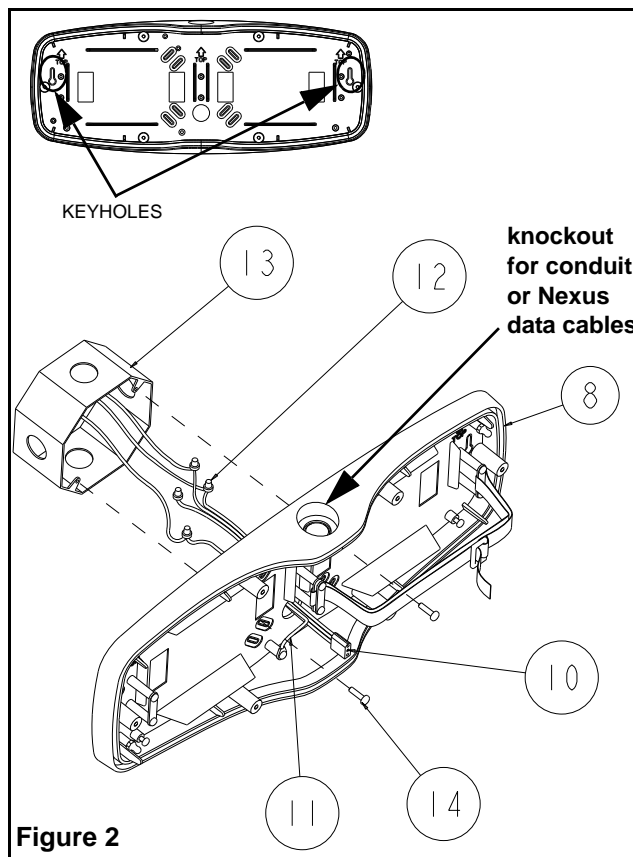

Figure 2
Wall mounting on a junction (figure 2)
- c. Remove AC harness from electronic module. Wire to AC circuit wires using wire nuts (see figure 2). Refer to hookup instructions on page 2.
- d. Install the gasket on the back plate. Feed AC harness and the ground through the large hole in the backplate (see figure 2). Mount to J-box using the J-box screws (not provided). J-box should be properly secured directly to a stud.